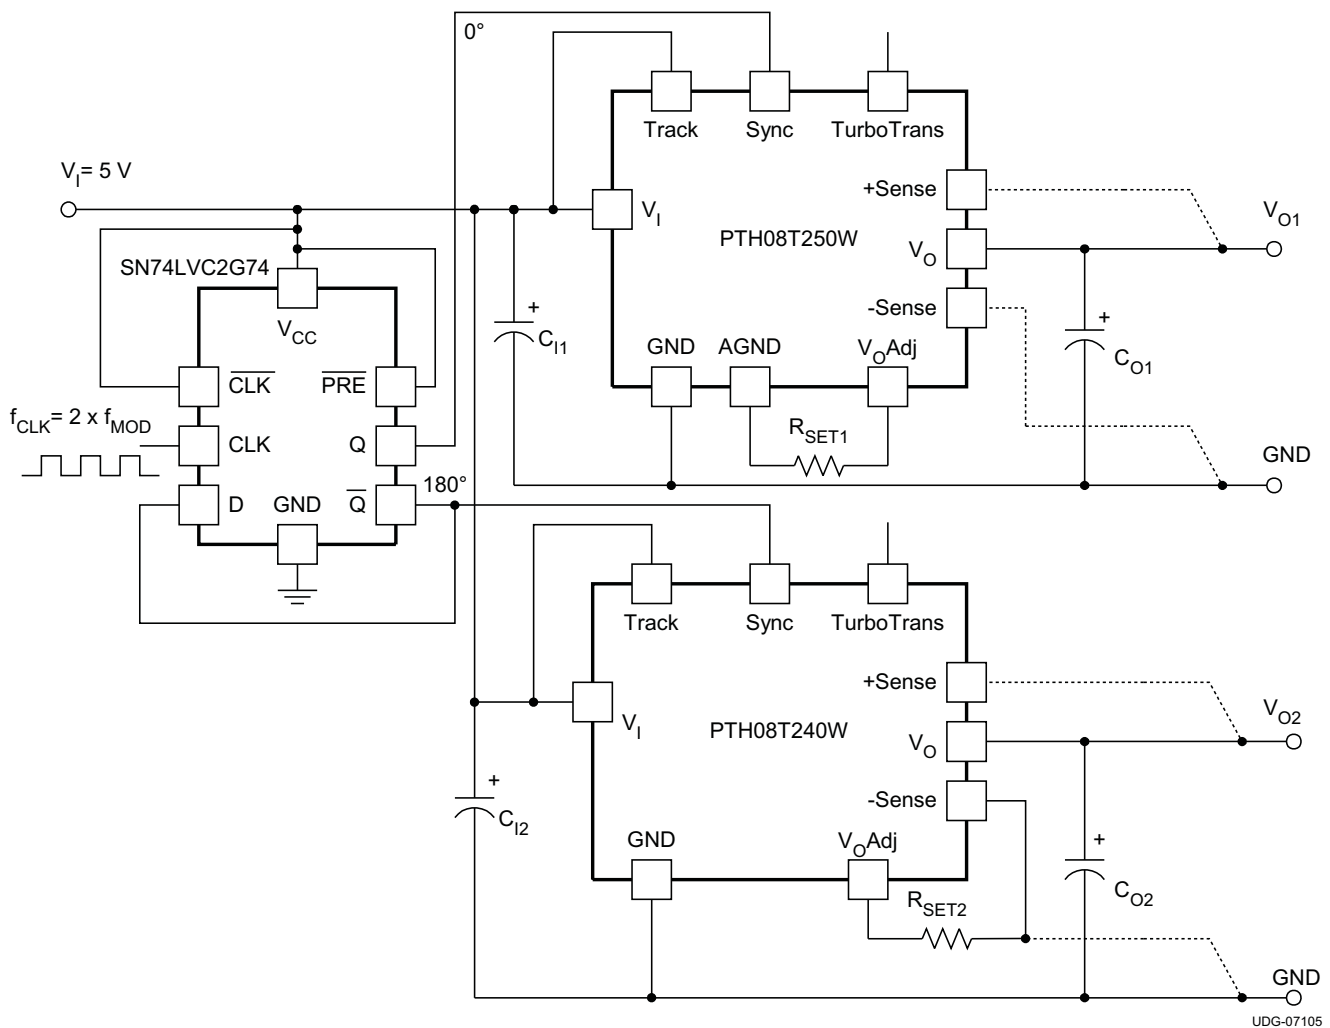

Figure 21. Typical Smart Sync Schematic
**The PTH08T250W requires that the external synchronization frequency be present before a valid input voltage is present or before release of the inhibit control.** Figure 21 shows a standard circuit with two modules synchronized 180° out of phase using a D flip-flop.